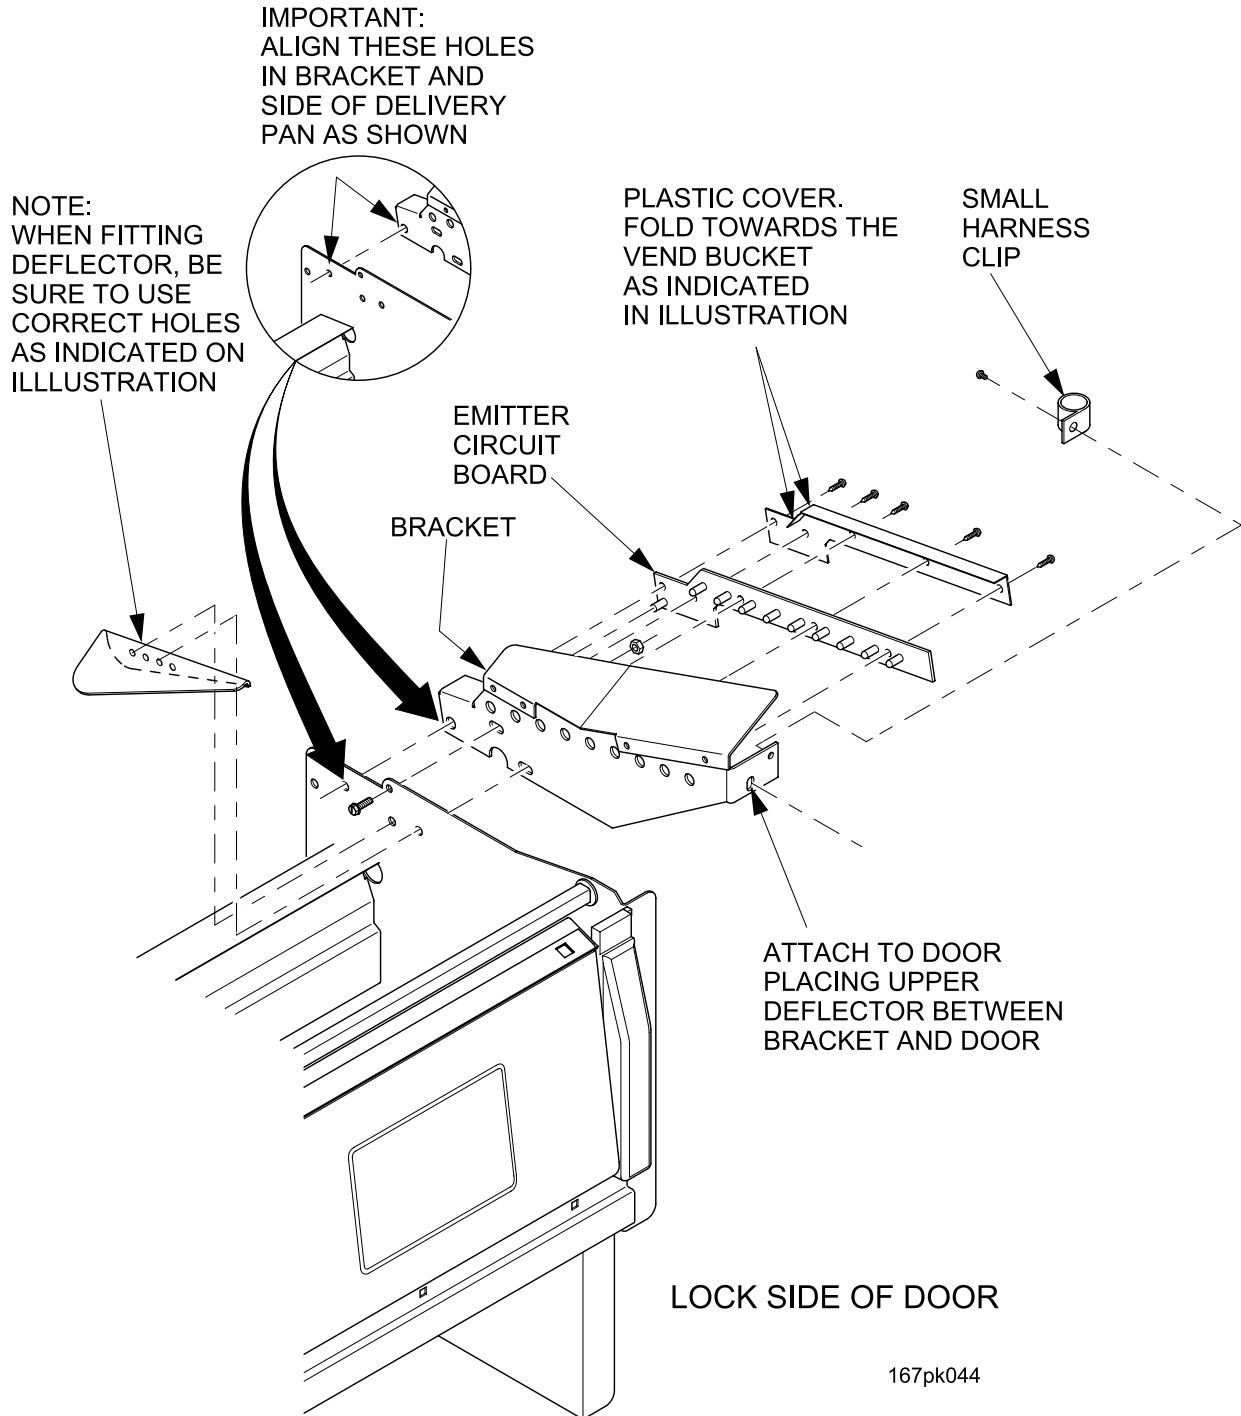
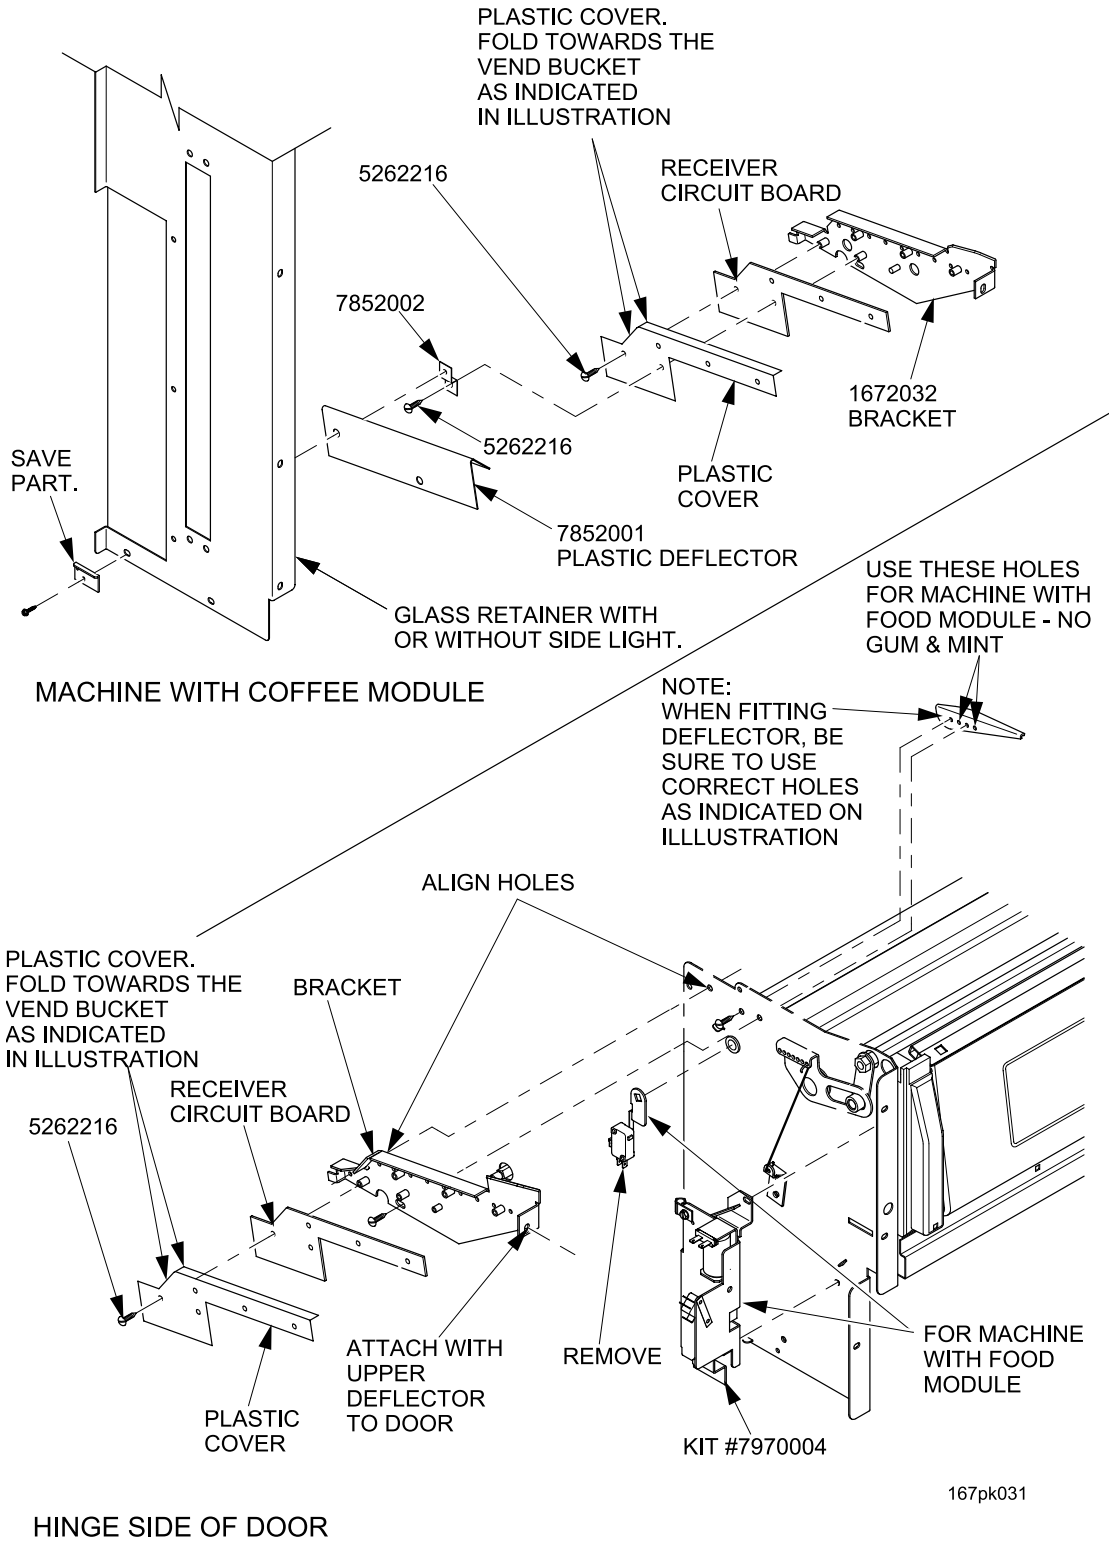

Figure 4
Figure 5
7. Loosely attach the left and right sensor bracket assemblies and the new inner deflectors to the delivery pan sides, (See Figures 4 & 5). **VERY IMPORTANT:** align the lower hole of the bracket as shown to the hole in the side of the delivery pan and tighten the screws on the sides of the delivery pan (See Figures 4 & 5)
(See Figures 4 & 5).
10. If your machine has a coffee module, reassemble the glass retainer to the door (See Figure 5 on page 7).
11. **Plug the machine back into the electrical service (this grounds the machine for the maximum protection against electrostatic discharge).** Wearing electrostatic discharge protection, attach the left and right sensors assemblies and paper backing to the left and right brackets with the (10) #6-32 screws provided (See Figure 4 on page 6) and (See Figure 5 on page 7).
12. **Skip this step if you have a machine with a coffee module.** Attach the left and right PCB covers to the brackets (See Figure 4 on page 6) and (See Figure 5 on page 7). Connect the black emitter to detector harness wire to the two sensor boards (See Figure 9 on page 11) and (See Figure 10 on page 12).
13. If your machine has a coffee module, attach the left PCB cover and the special right hand PCB cover (See Figure 4 on page 6) and (See Figure 5 on page 7):
18. If your machine has a refrigerated/frozen food module, you must purchase lock kit part number 7970004. Install this kit to the delivery pan as shown (See Figure 5 on page 7).